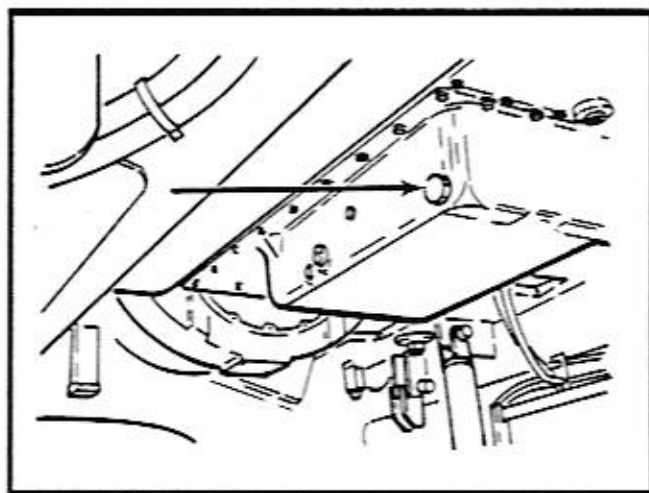

Figure 11-1. Engine Oil Drain Plug
2. Be careful, hot oil or components can burn. Remove the drain plug from the engine oil pan and allow the oil to drain completely. Clean and install the drain plug. Refer to Figure 11-1.